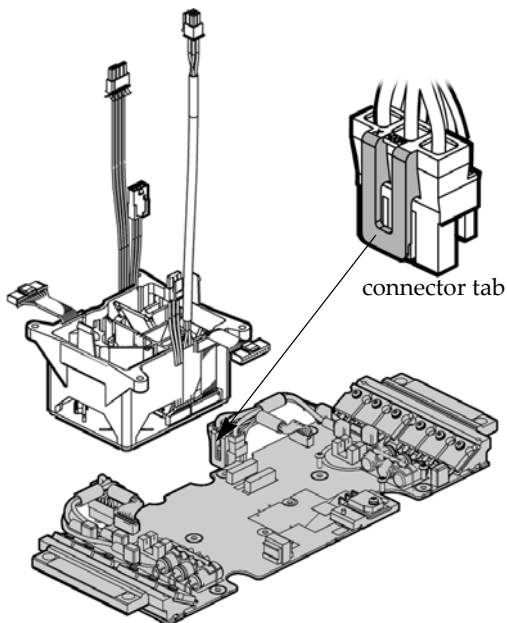

Figure 11-2: Pry Connector Tab
6. Use small flathead screwdriver to gently lift tab on connector, and then carefully pull on connector to unseat. See Figure 11-2.